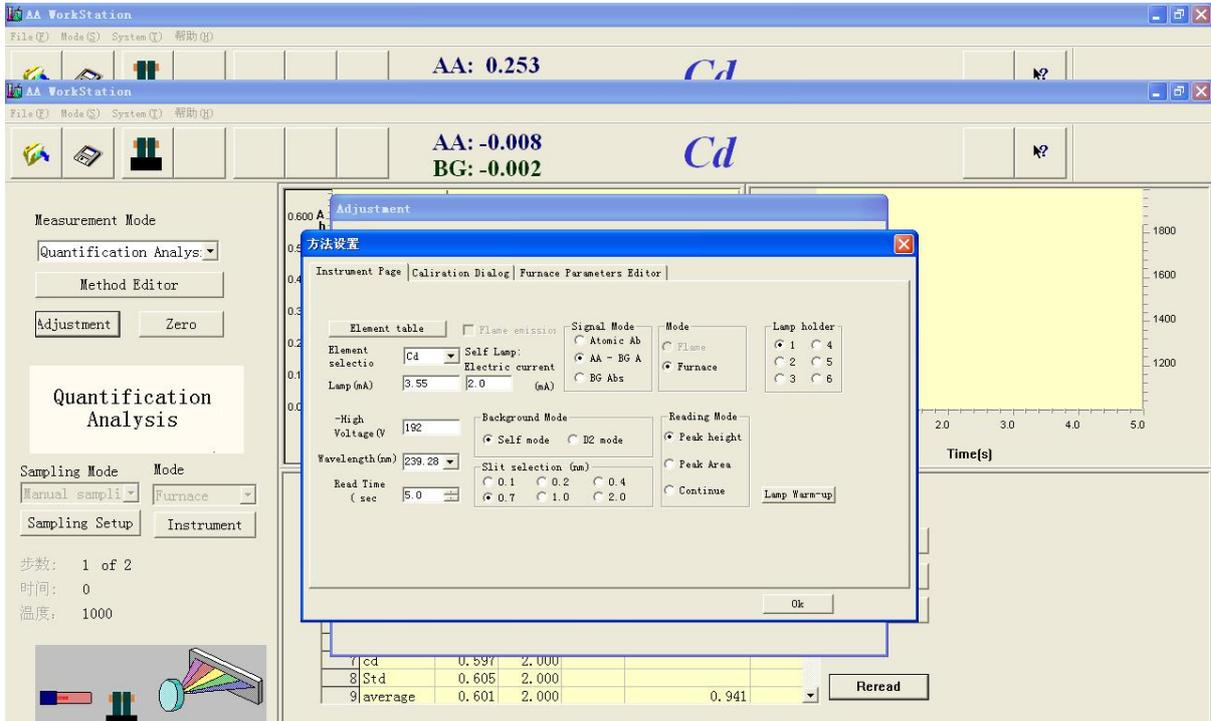

Figure 5-76a
1. Set parameters according to the user’s requirements in the window of “Instrument Page”,see Figure 5-76a,(You must select the “self mode”)